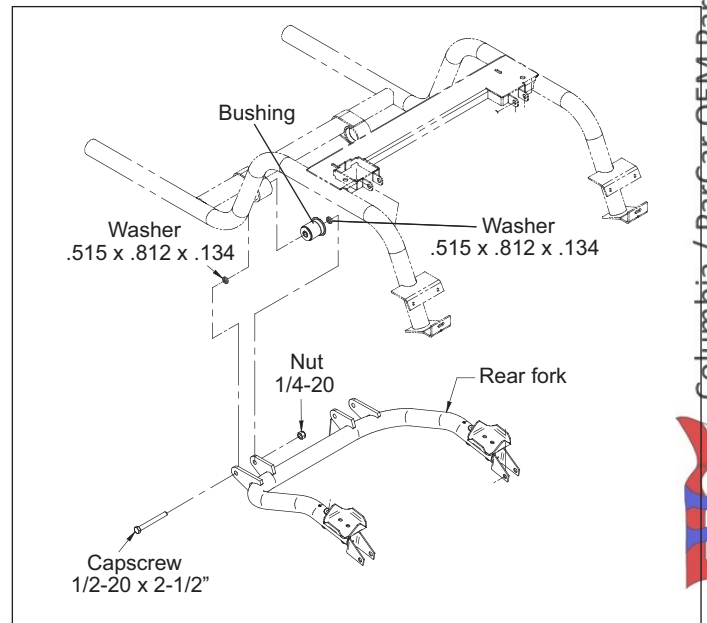

Figure 6-14. Rear Fork Bushings
3. Remove capscrews and nuts securing rear fork to frame (Figure 6-14).